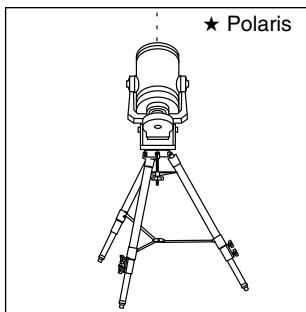

Fig. 23: Mount too far West.
- b. If the star drifts North (or up), the telescope's polar axis is pointing too far West (Fig. 23).